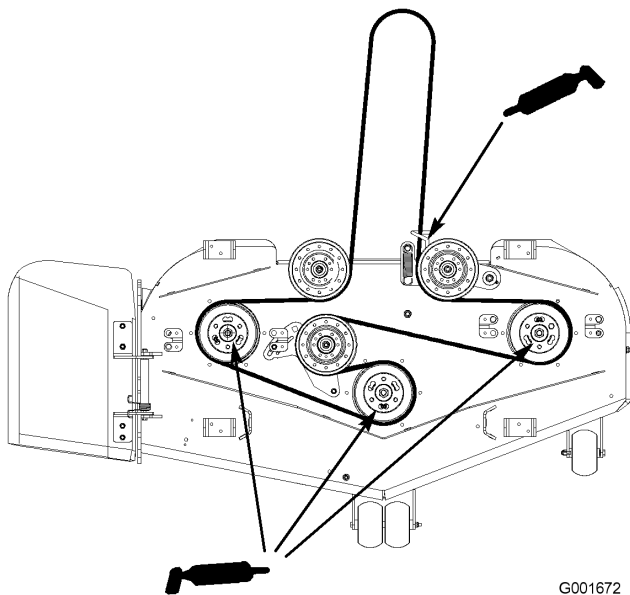

Figure 27
4. Grease the three spindle bearings under the pulleys until grease comes out the lower seals (Figure 27).
5. Grease the idler arm on the mower deck (Figure 27).
6. Grease the fittings on the push arms (Figure 27).